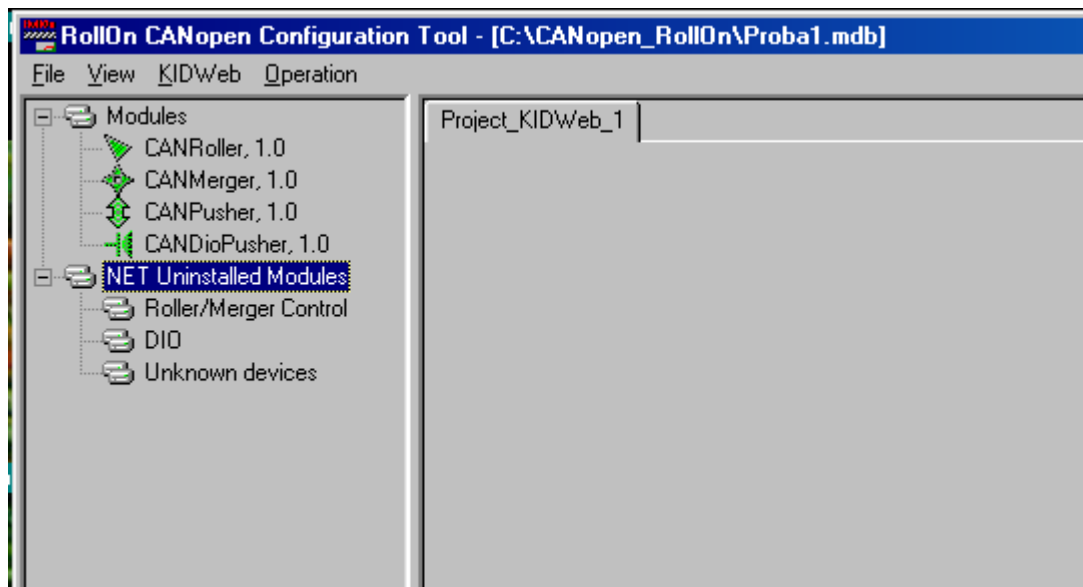

Fig. 4.4
- Click **Save** button – the screen appears as shown in Fig. 4.4.